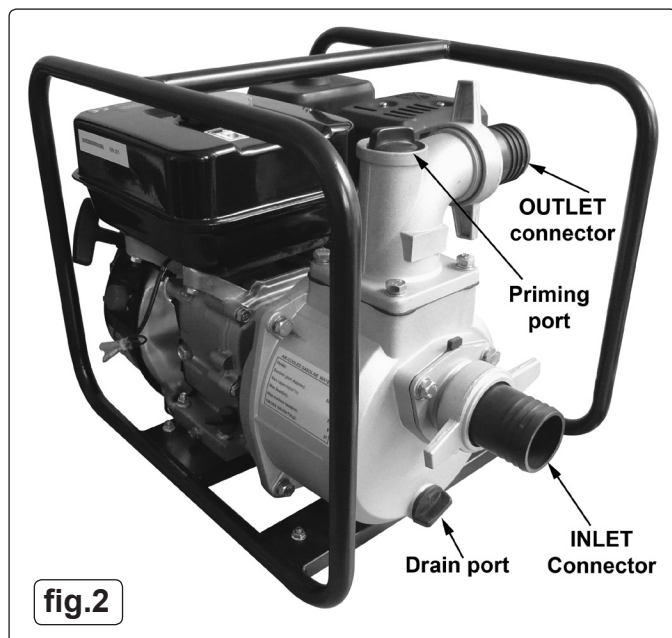

fig.2
4.1 ASSEMBLE CONNECTORS ONTO PUMP (See fig.2)
- 4.1.3 Screw one connector assembly onto the pump inlet as shown above in fig.2. Screw the other assembly onto the pump outlet as shown above and hand tighten both.
- 4.2.7 **IMPORTANT! Unscrew the cap from the priming port at the top of the pump and fill the chamber with water. (See fig.2) Replace the cap.**
- 6.1 **WINTER STORAGE:** To prevent ice damage to the pump during winter storage drain water out of the pump by removing the stopper from the drain port seen in fig.2. Replace the stopper when all water has drained out.